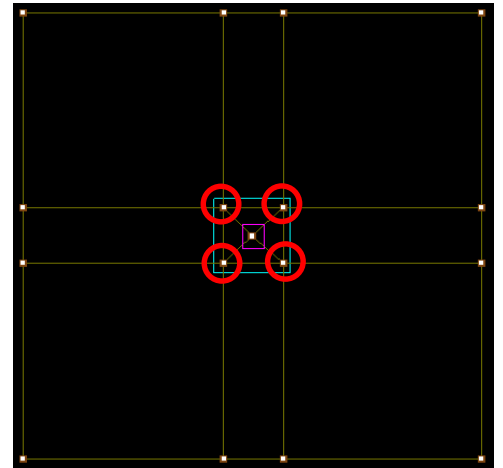

Figure 7
- Switch on group 1 and add 8 inside corners assigned to cylinder as shown in figure 7.
So sheet next to low density group can be selected, but corners in that sheet are shared by five blocks. Hence that sheet cannot be used as it is having a five point singularity, which can be seen in figure 7. So create an insert between these two sheets and that sheet will be selected as low density group.